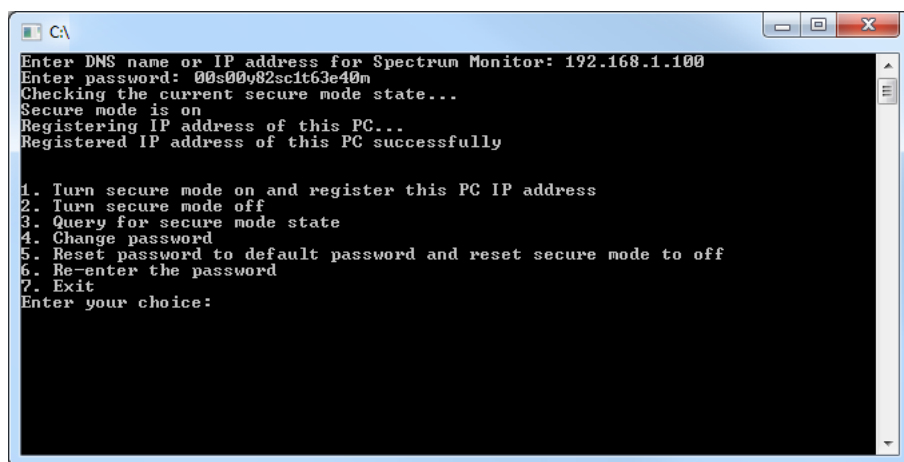

Figure 11. Command Window with the Default Password Entered
5. Enter the default password if setting up Secure Mode for the first time. The default password is a combination of the RSM MAC address and the word “system”. For example, if the MAC address is 00:00:82:e1:63:40, the password is **00s00y82se1t63e40m**. Successfully entering the password will return the following response and Secure Mode commands shown in Figure 11. The MAC address can be found on a label on the RSM unit.